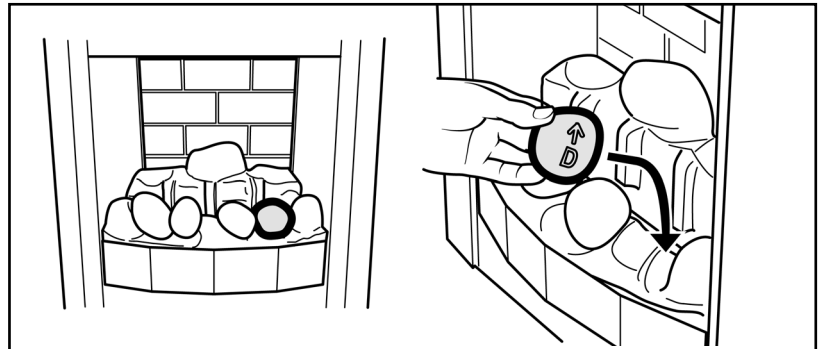

Figure 15.
6. Hold pebble 'D' upright with the arrow pointing to the top. Place pebble "D" on top of the base front pebble. It should rest against the moulded pebble to its right. (See figure 15).